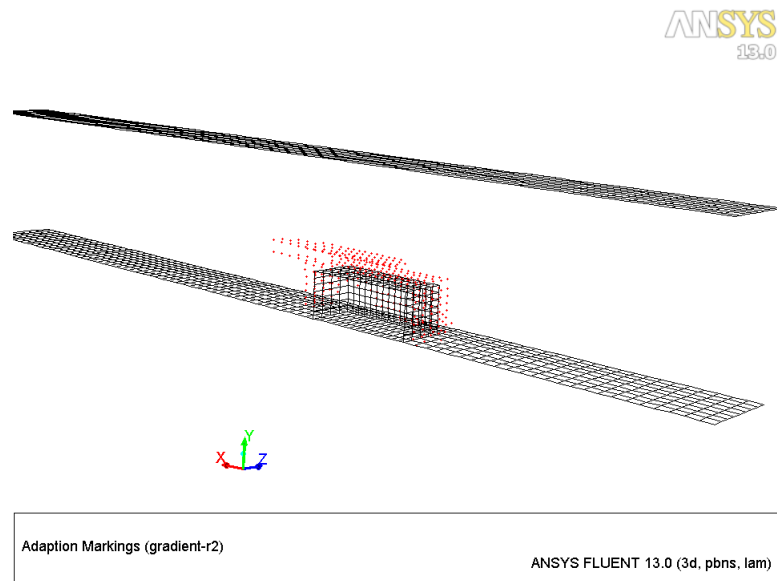

Figure 10: Cells (approx. 380) Marked for Temperature Gradient Adaption
- (e) View the cells marked for temperature gradient adaption (Figure 10).
Figure 10 shows the cells marked for temperature gradient adaption. These cells are concentrated mainly near the block (where the temperature is changing rapidly).